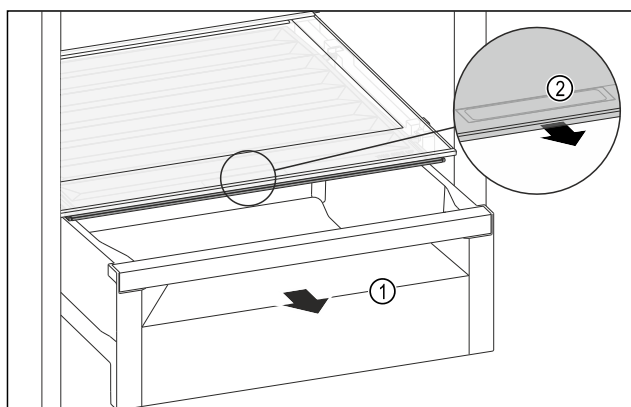

Fig. 83
- Pull out the drawer Fig. 83 (1).
- Grip the handle recess Fig. 83 (2) on the lid while pulling the lid forward at the same time.